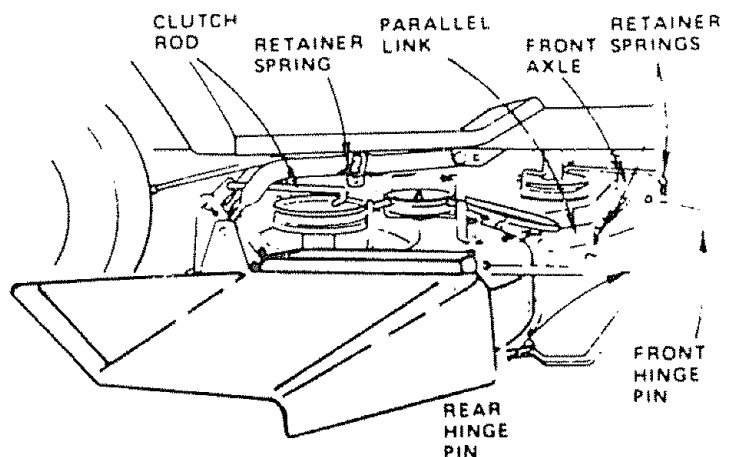

FIGURE 30
- Install front hinge pin through axle and parallel link (Fig. 30). Secure with retainer spring.
- Install rear hinge pin through mower lift brackets and parallel link (Fig. 30). Secure with retainer spring.
- Install clutch rod in clutch lever (Fig. 30).